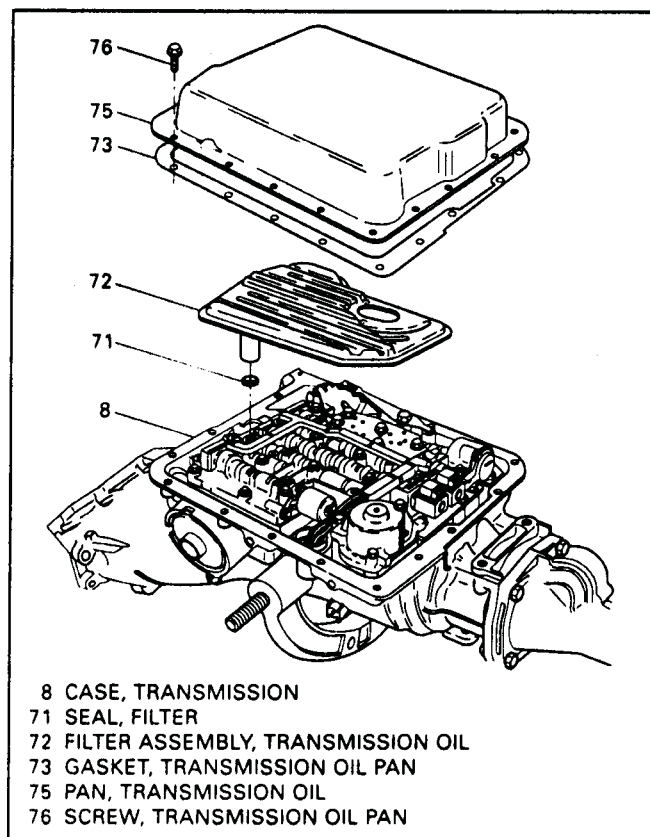

Figure 40
22. Remove the bottom pan bolts, oil pan, and the bottom pan gasket as shown in Figure 40.